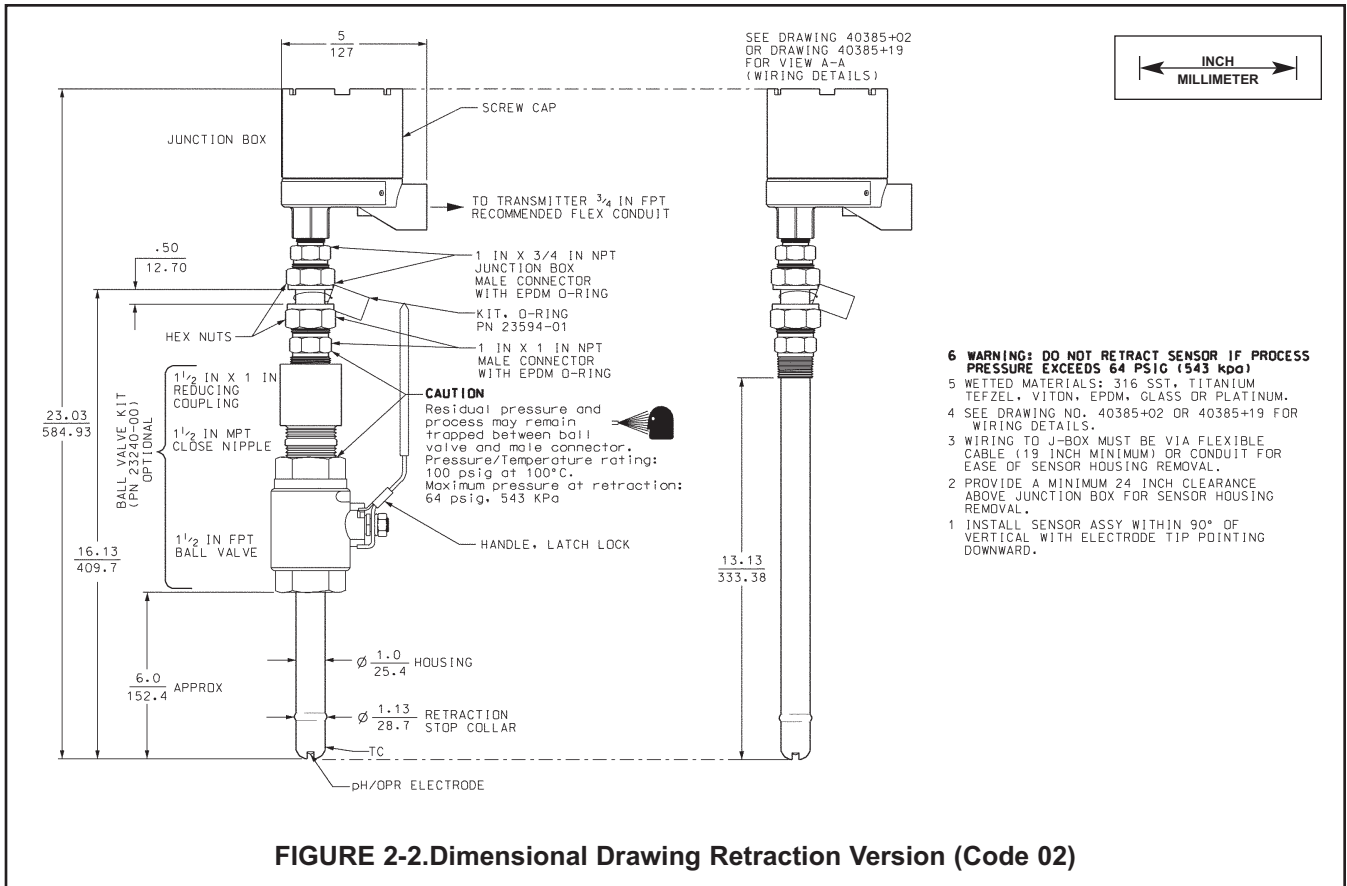

FIGURE 2-2. Dimensional Drawing Retraction Version (Code 02)
2.2.1 Retraction Option. (Code option -02) The Model 385+ Sensor may be installed through a weldolet or in a pipe tee or “Y”, as shown in Figure 2-1, when used with a ball valve. Insert the end of the sensor to a depth sufficient to ensure that the glass bulb is continuously wetted by the process fluid. The Model 385+ can also be inserted directly into the process without the use of a ball valve for applications not requiring continuous operation during sensor maintenance (Figure 2-2). **ALLOW SUFFICIENT ROOM FOR SAFE RETRACTION AND INSERTION OF THE SENSOR. PERSONNEL SHOULD HAVE ROOM FOR STABLE FOOTING WHILE PERFORMING REMOVAL OR INSERTION OF THE SENSOR.**